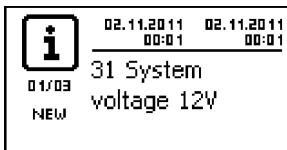
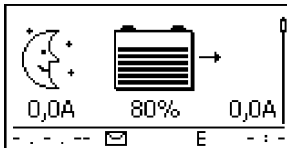

Fig. 5: Event message with the detected system voltage (in the example: 12 V)
Fig. 6: Basic setting of the status display
2.  Switch on the external battery fuse: Insert the fuse insert into the fuse holder (safety fuse) or switch on the DC line circuit breaker. The controller automatically starts operation and, after a few seconds, displays the detected system voltage (= battery voltage) in an event message (Fig. 5).
3.  Note the system voltage displayed in Fig. 5.
4.  Press 'ESC' to confirm the event message. The basic setting display appears (Fig. 6).
6.  If Fig. 5 and Fig. 6 are not displayed then check the installation and if necessary correct the error using  15, p. 126 et seqq.